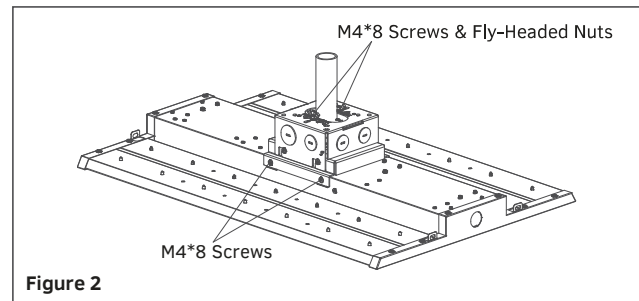

Figure 2
2. Mounting With Conduit Pendant (Figure 2)